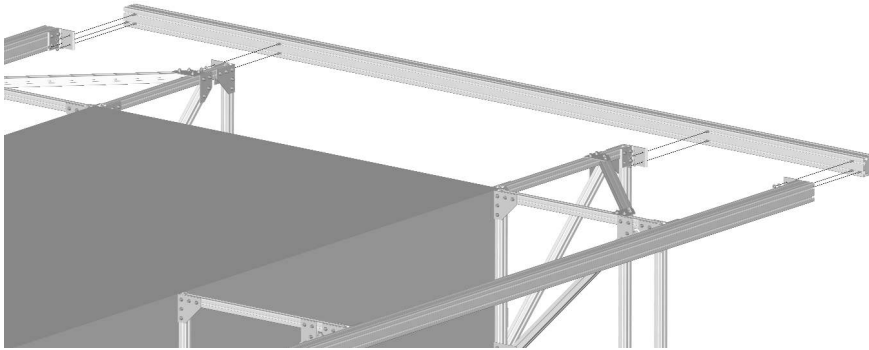

Figure 6-A
6. Lift rail "T" into place (see Figure 6-A). Align the carriage bolts with the mounting points on the support assemblies. Slide the carriage bolts through the holes in the corner clip angles "4" (mounted to support assemblies and rail "S"). Apply one washer and one nut to each carriage bolt. Hand tighten the nuts. Mount all remaining rail(s) using the same procedure.